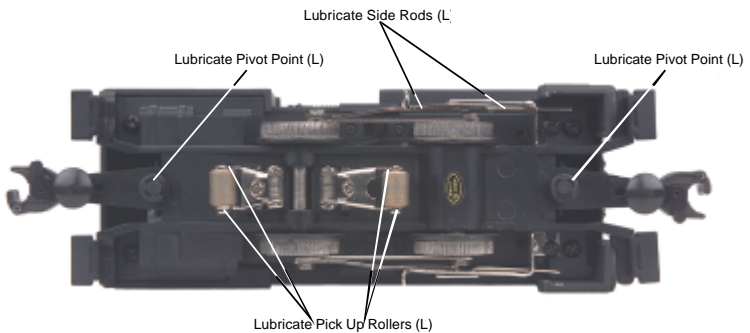
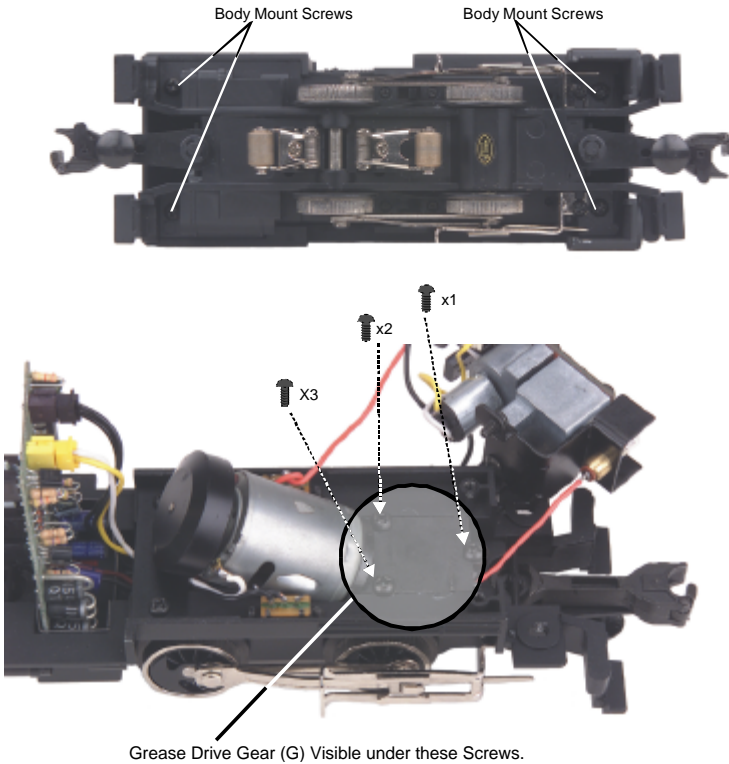

Figure 2. Lubrication Points on the Locomotive
Figure 3. Locations of the Body Mounting Screws and Adding Grease to the Gear Box
- You should lubricate all side rods and linkage components and pickup rollers to prevent them from squeaking. Lightly grease the drive gears (marked “G” in Fig. 3 on page 7) to prevent them from squeaking. Use light household oil and follow the lubrication points (marked “L” in Fig. 2 on page 6). Do not over-oil. Use only a drop or two on each pivot point.
Before operating the locomotive, apply a small drop of oil to lubricate the side rods and pick up rollers. Use light household oil and apply sparingly only to the points indicated by Figure 2. Wipe away any excess, especially if oil spills onto the finish of the locomotive. To prevent accidental scratches or other damage to the locomotive shell while you are working, you may want to place the locomotive in a repair cradle or an old towel or other cloth folded to provide a firm but soft resting place.
Grease should be added to the internal drive gears annually or after every 50 hours of operation. Grease can be added by inserting grease into the gear box inside the locomotive chassis. In order to access the gear box, the boiler must be removed from the chassis by unscrewing the four chassis screws as seen in Figure 3 below. Once the boiler is removed, the gear box can be opened up by unscrewing the three screws on the plate located in front of the motor. Grease can then be applied into the gear box using a grease tube dispenser.
To remove the 0-4-0 locomotive boiler from its chassis, follow the body removal instructions (see figure 3). Once the body has been removed, rotate the headlight bulb counter-clockwise as seen in Figure 4 to remove.